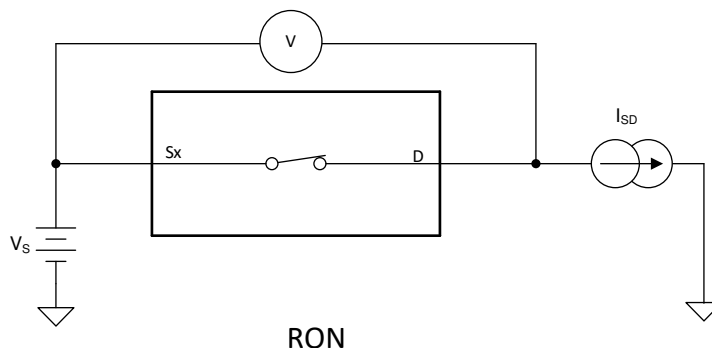

Figure 7-1. On-Resistance Measurement Setup
The on-resistance of a device is the ohmic resistance between the source (Sx) and drain (D) pins of the device. The on-resistance varies with input voltage and supply voltage. The symbol R_{ON} is used to denote on-resistance. Figure 7-1 shows the measurement setup used to measure R_{ON} . Voltage (V) and current (I_{SD}) are measured using this setup, and R_{ON} is computed with $R_{ON} = V / I_{SD}$: